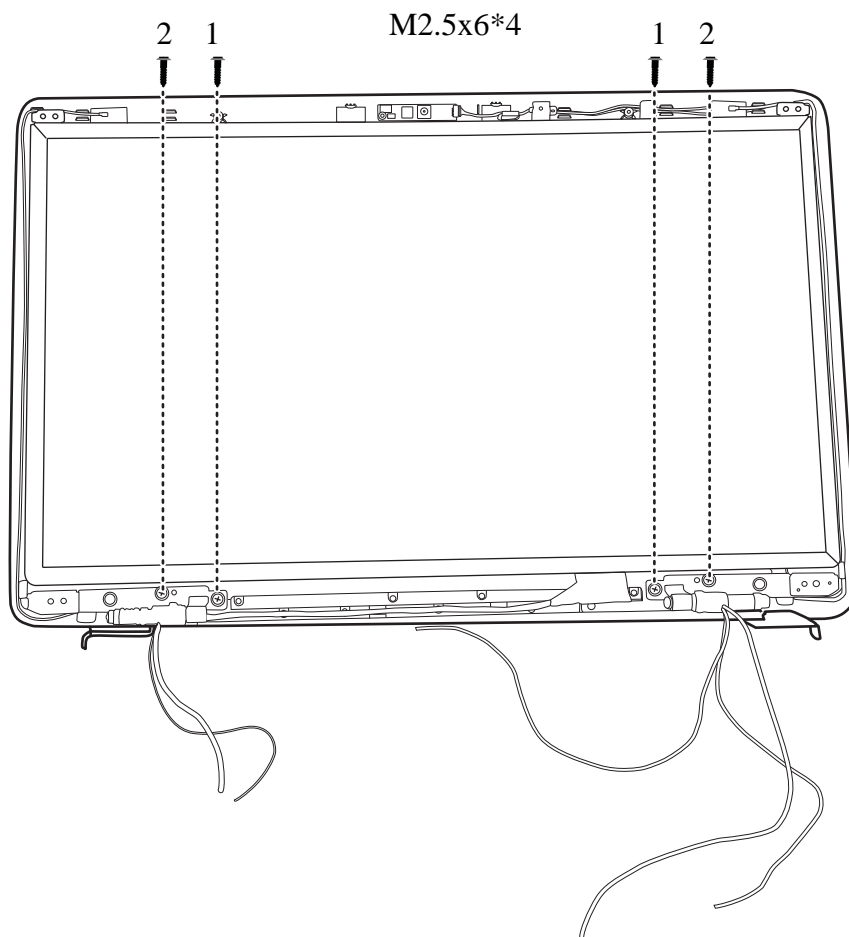

Figure 4.47 Removing the LCD Module from the LCD cover assembly
5. Seat the LCD module in the correct position in the LCD cover assembly and secure it to the LCD cover assembly with four M2.5x6 screws according to the sequence indicated in Figure 4.47.